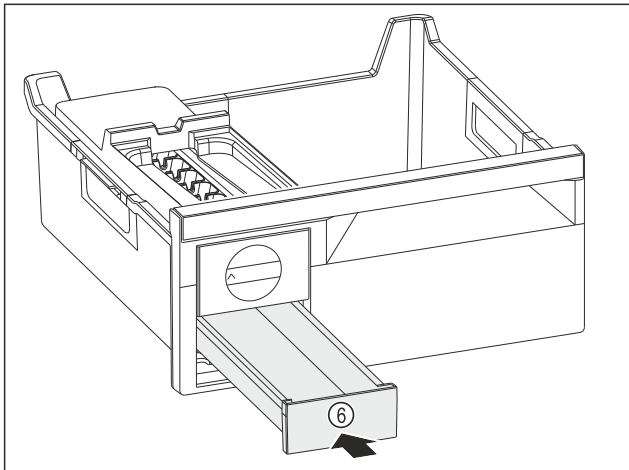

Fig. 141
- ▶ Insert the ice cube drawer Fig. 141 (6).